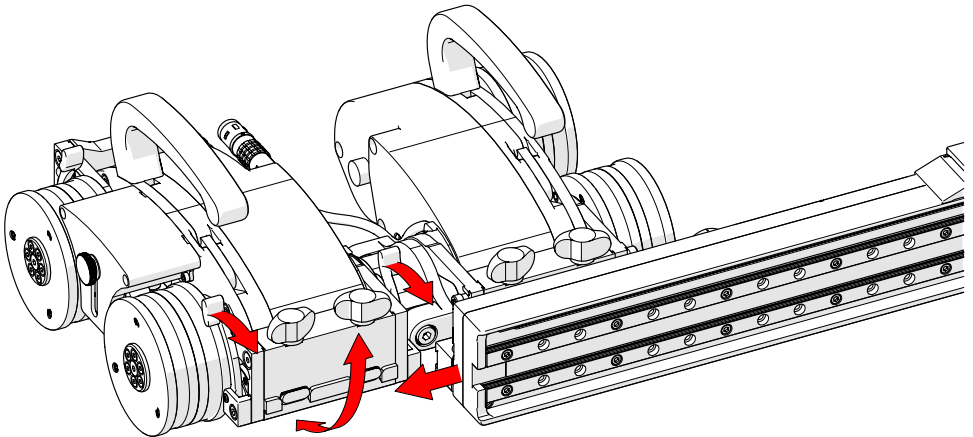

Fig. 106 - Slide onto second swivel mount
2. Release the swivel mount levers and pivot the swivel mount to align with the mounting rail of the raster arm (Fig. 106). Slide the raster arm on to the remaining module's swivel mount and tighten all four black wing knobs.